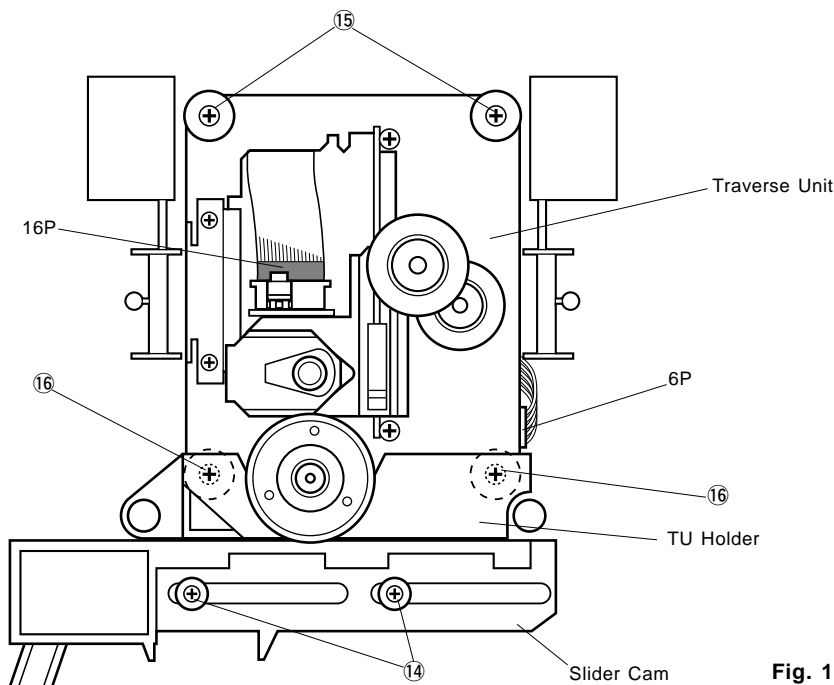

Fig. 12
- f. Remove 4 screws (14 and 15) in Fig. 12.
- h. Take out the Traverse Unit with the Slider Cam and the TU Holder in Fig. 12.
- i. Remove 2 screws (16) and then remove the TU Holder in Fig. 12.